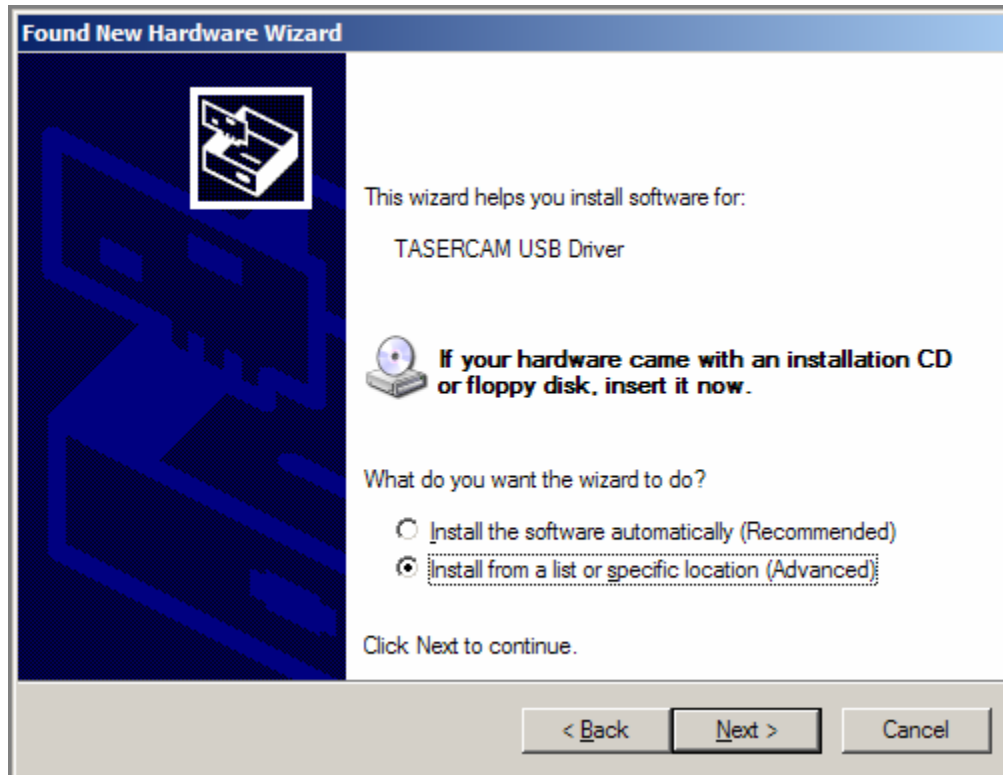

Figure 7
5. The Found New Hardware Wizard asks where you would like to search for the TASER CAM USB driver. Select **Install from a list or specific location (Advanced)** (Figure 7).